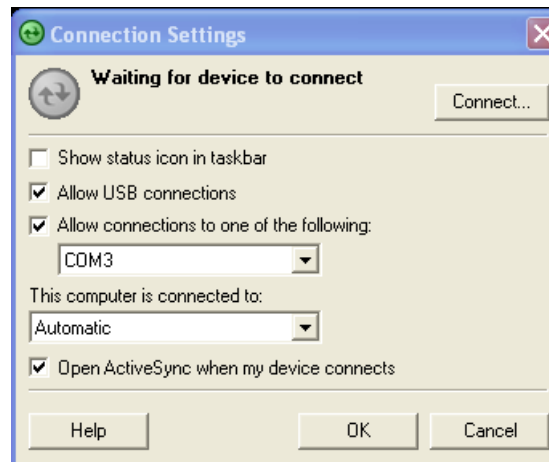

Figure 25
1. In the ActiveSync program on the PC, select the **Connection Settings** option on the File menu (see Figure 25, “ActiveSync, Connection Settings”).